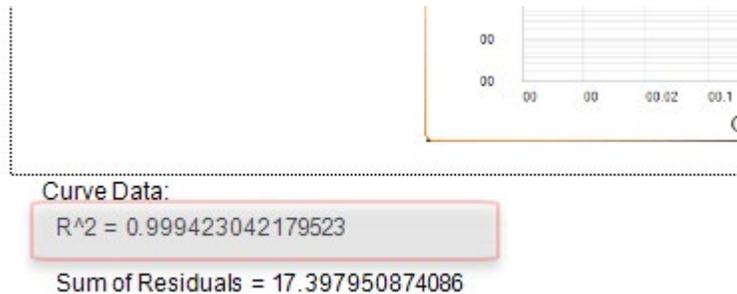

Figure 5. Data Interpretation Report ( $R^2$ )
5. Finally, a review of the curve fitting parameters and most importantly the  $R^2$  statistic is a critical step. This may be done early in the curve review process, or as each editing step is taken to assess improvement.  $R^2$  is a commonly used statistic designed to give an overall assessment of the goodness of fit of the data using the chosen model. This can also be found on the Data Interpretation Report in xPONENT. See the example shown in figure 5.